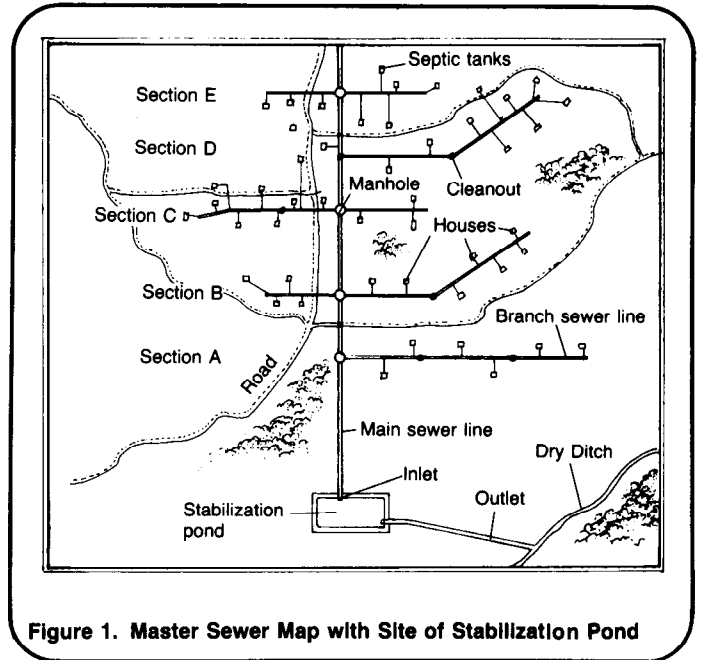

Figure 1. Master Sewer Map with Site of Stabilization Pond
1. Location map, or master sewer map, similar to Figure 1;